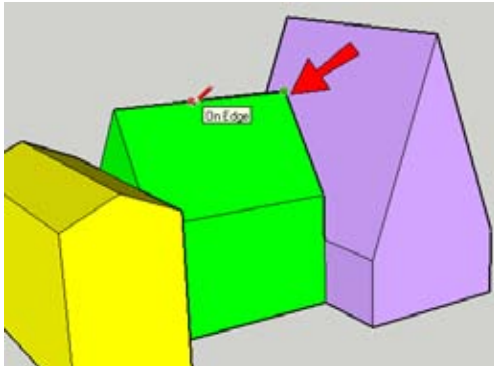

Figure 5-54
2. Resolve the green-purple intersection first. Start a line at the closest ridge point of the green roof, indicated in Figure 5-54. Then hover over the green ridge line.